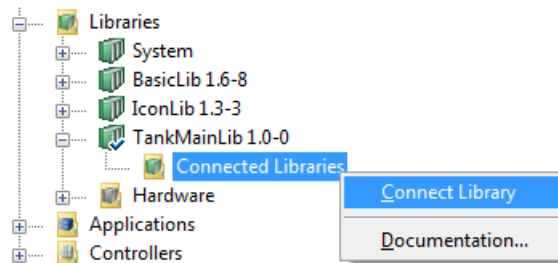

Figure 43. Connecting a Library
5. To the library (see Figure 43), add the following: